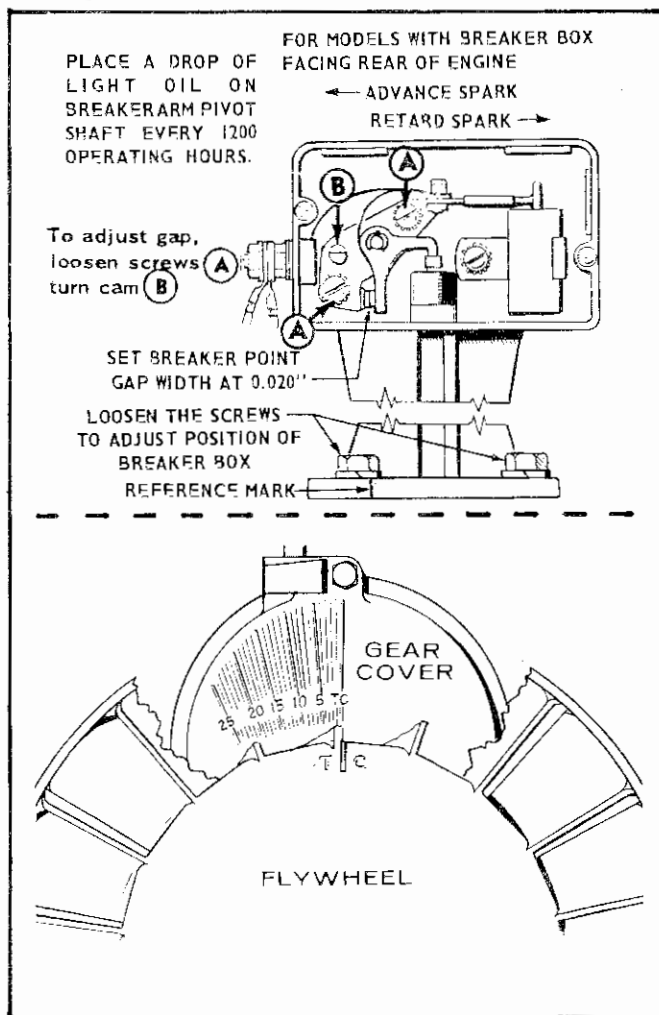

FIGURE 11. IGNITION TIMING
Breaker Point Removal and Gapping (Figure 11):
4. Rotate the engine clockwise by hand until the mark on the flywheel and the TC mark on the gear cover align (Figure 11).
5. Turn the point adjusting cam screw (B) until the point gap is .020" and tighten mounting screws (A) as shown in Figure 11.
2. Rotate the flywheel clockwise until the TC mark on the flywheel approaches the timing indicator (Figure 11). Then slowly rotate the flywheel clockwise until the light goes out, indicating that